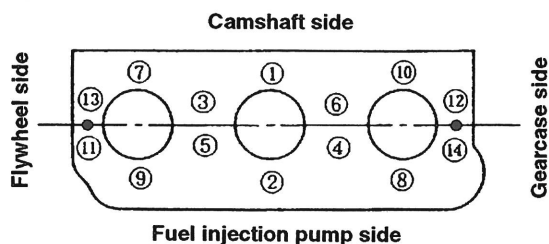

Figure 8. 3 Cylinder Head Torque Sequence
4. Tighten head bolts with a torque wrench in order show in (Figs. 8&9). Tighten bolts evenly in 2 or 3 passes, ending at specified torque in final pass (Fig 10).